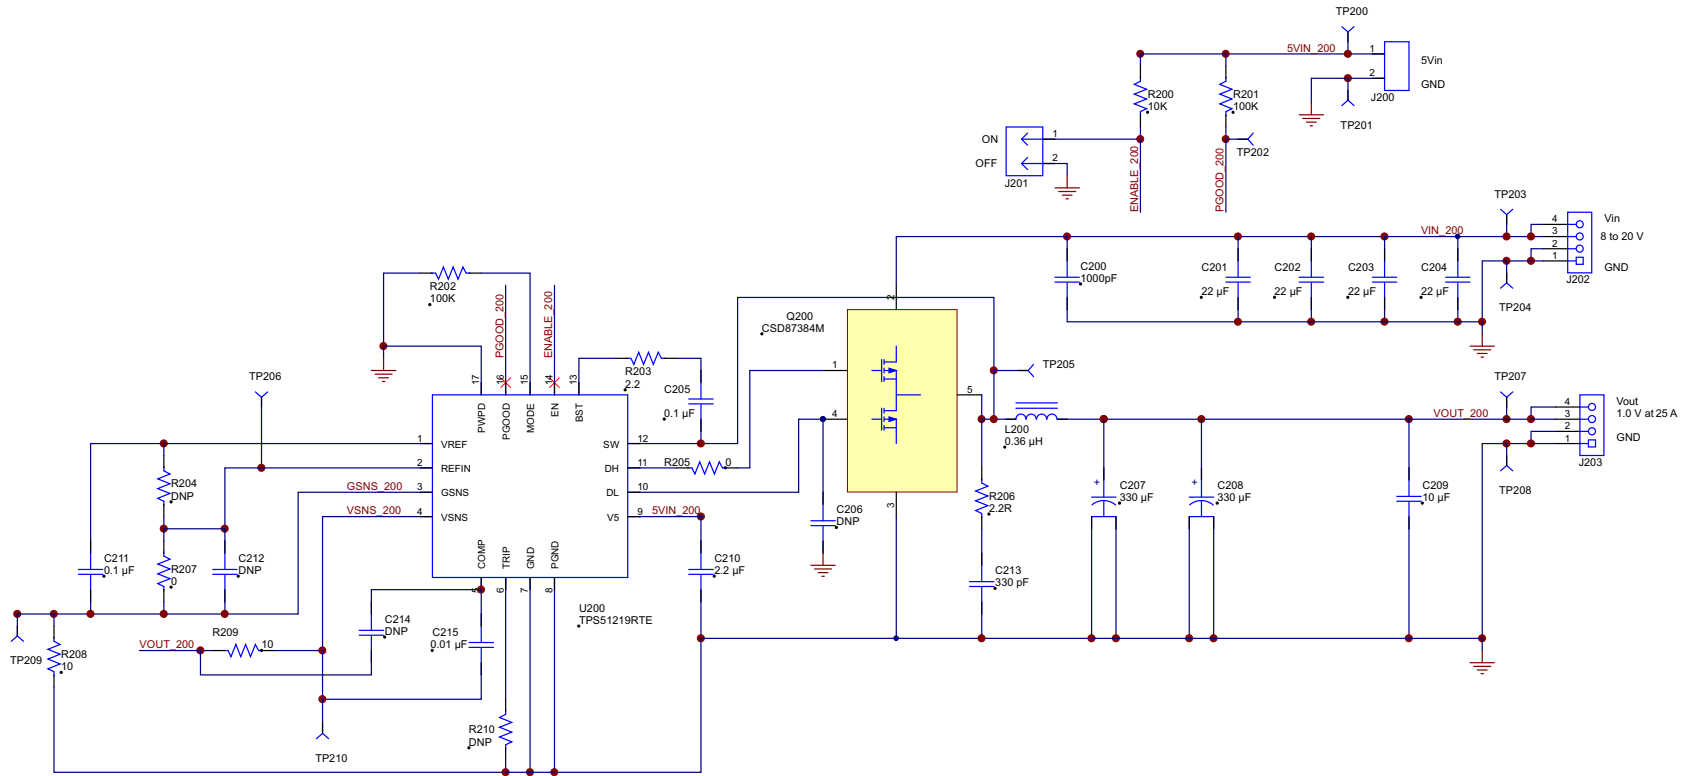

Figure 1. CSD87384MEVM-603 Schematic
(1) The output voltage can be adjusted by changing the values of R204 and R207 in Figure 1. For details, refer to the TPS51219 data sheet, SLUSAG1. The TPS51219 device supports output voltage from 0.5 to 2 V.
The EVM components list according to the schematic shown in Figure 1.